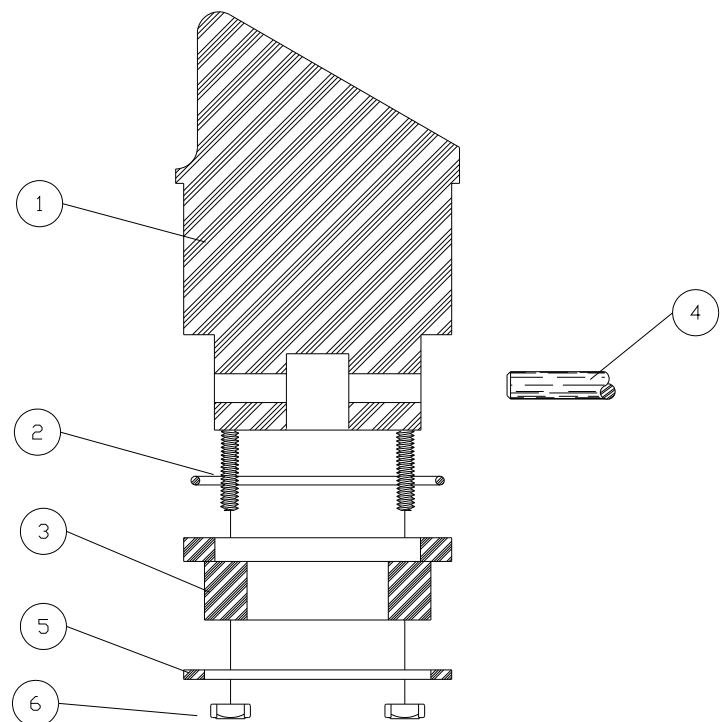
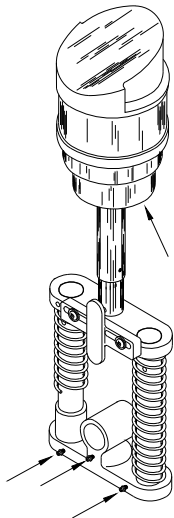

FIGURE 4
FIGURE 2
TO DISMANTLE PISTON IN FIGURE 4, REMOVE THE SIX HEX NUTS (6), SLIP RING (5) DOWN AND OFF, THEN WITH SLIGHT PRESSURE, PUSH PISTON RING (3) OFF PISTON, REMOVE WRIST PIN (4) AND RUBBER "O" RING (2). WHEN REASSEMBLING THE PISTON, A VERY **IMPORTANT** STEP IS TO MAKE SURE THE SIX NUTS (6) ARE NOT OVERLY TIGHTENED, MERELY SNUG. AS THE RING WEARS OVER A PERIOD OF TIME, CONTINUE TO SNUG UP THE SIX NUTS. THIS PROCEDURE WILL NOT ONLY PROVIDE LONG LIFE TO THE PISTON RING BUT WILL MAINTAIN FULL VACUUM.
THE PISTON AND SPRING LOAD ASSEMBLY HAVE A TOTAL OF (4) GREASE FITTINGS, (FIG. 2). THREE (3) OF THESE FITTINGS ARE FOUND ON THE LOWER CASTING OF THE SPRING LOAD. APPLY A SMALL AMOUNT OF GREASE TO THESE FITTINGS ONCE A WEEK. THE SAME PROCEDURE SHOULD BE FOLLOWED FOR THE GREASE FITTING UNDER THE PISTON, (FIG. 4). THIS FITTING IS LOCATED ON THE TOP OF THE OUTSIDE CONNECTING ROD, (PART NO. 322PY).